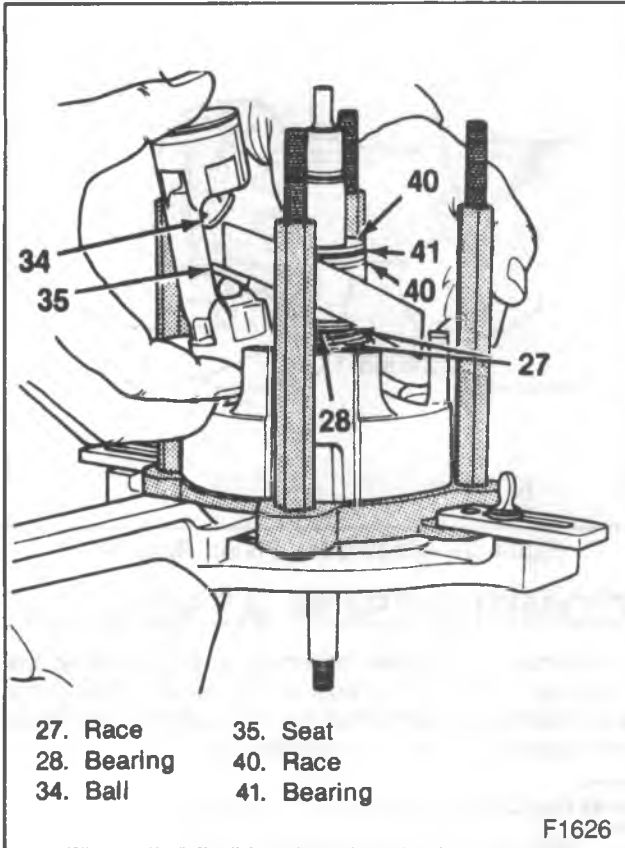
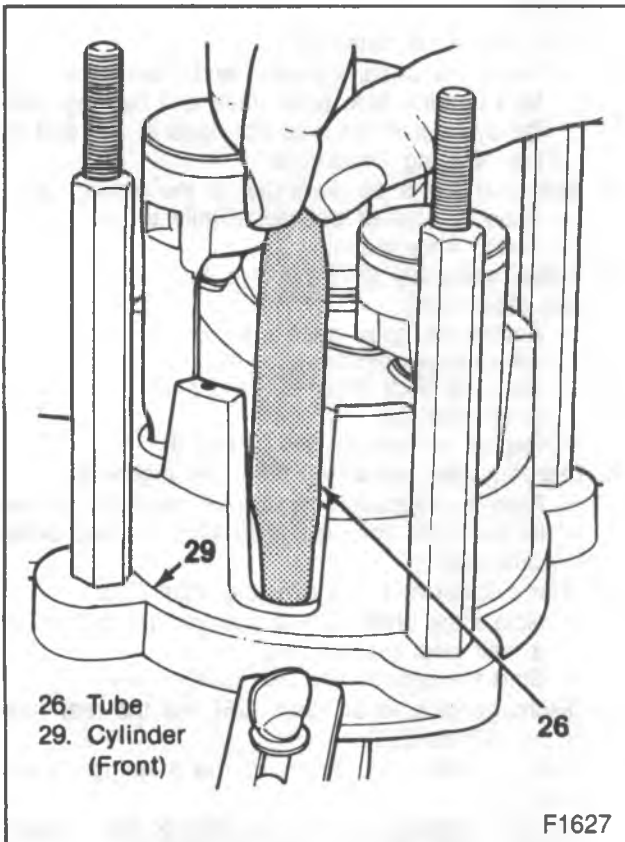

Figure 40—Installing No. 1 Piston
Figure 41—Installing the Discharge Crossover Tube
- Support the front half of the cylinder (29) on J 9397.
- 1. Shaft and axial plate (38).
- 2. Balls (32) and shoe discs (33) to the pistons (30).
- 3. Piston assembly (30) into the front cylinder half (29) (figure 40).
- Rotate the axial plate (39) to place the high point above cylinder bore No. 1.
- 4. Discharge the cross-over tube (26) (figure 41).
- 5. Rear cylinder half (42) over the shaft (39).
- Rotate the shaft (39) to position the pistons in a stair-step arrangement.
- 6. Discharge cross-over tubes (26) into the rear half of the cylinder (29).
- 7. Rear cylinder half (42) over the locating dowel pins (45).